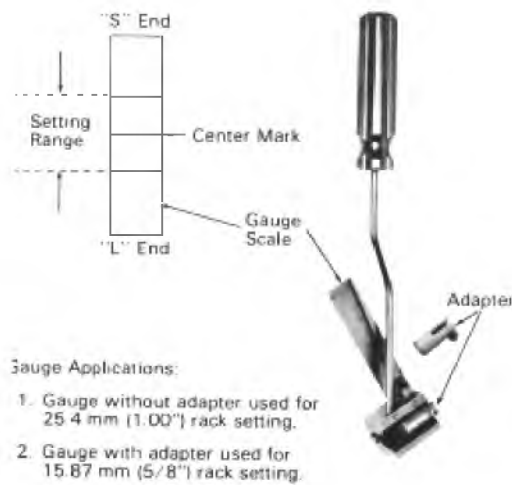

Fig. 15-12 - Injector Rack Gauge
3. Use the rack gauge, without the adapter, Fig. 15-12, for setting the rack on engines having PG or EGB-10 type governors. Set the rack within the setting range marks on the gauge. Use the rack gauge with the adapter, Fig. 1512, for setting the racks on engines having UG-8 governors. Set the rack within the setting range marks on the gauge.